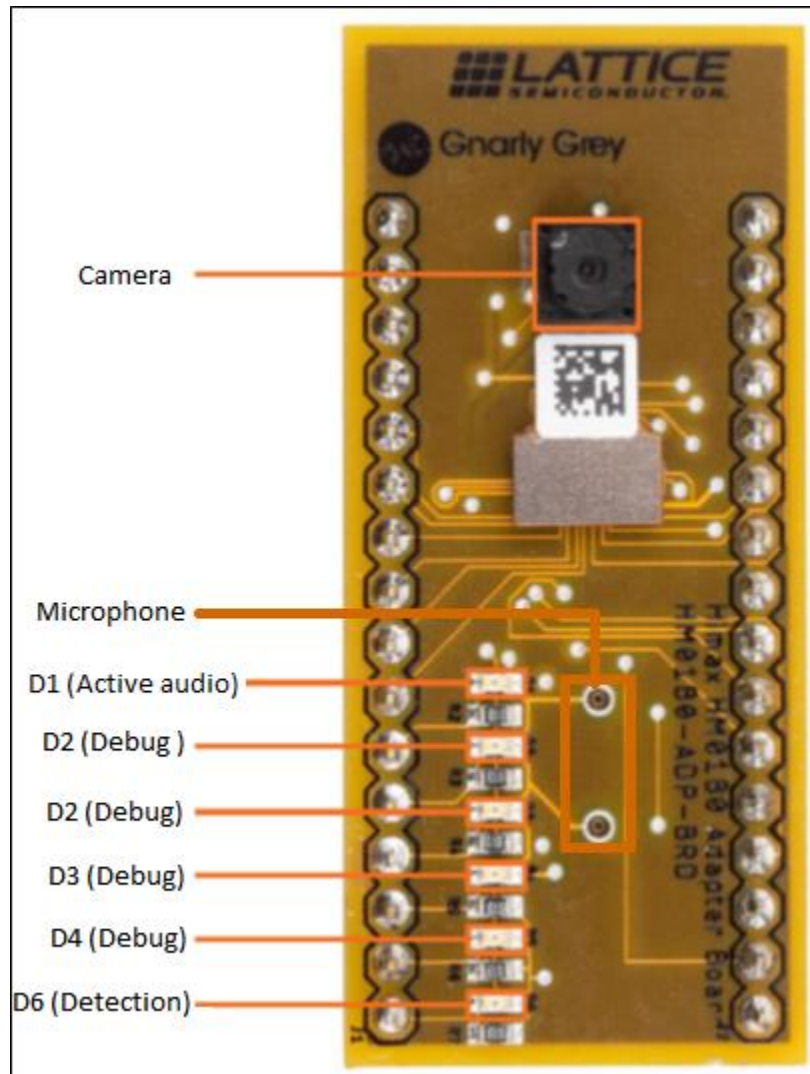

Figure 5.1. Microphone and LED Location
2. State the keyword in front of the board. LEDs turn on. Refer to Figure 5.1 for the LED information.